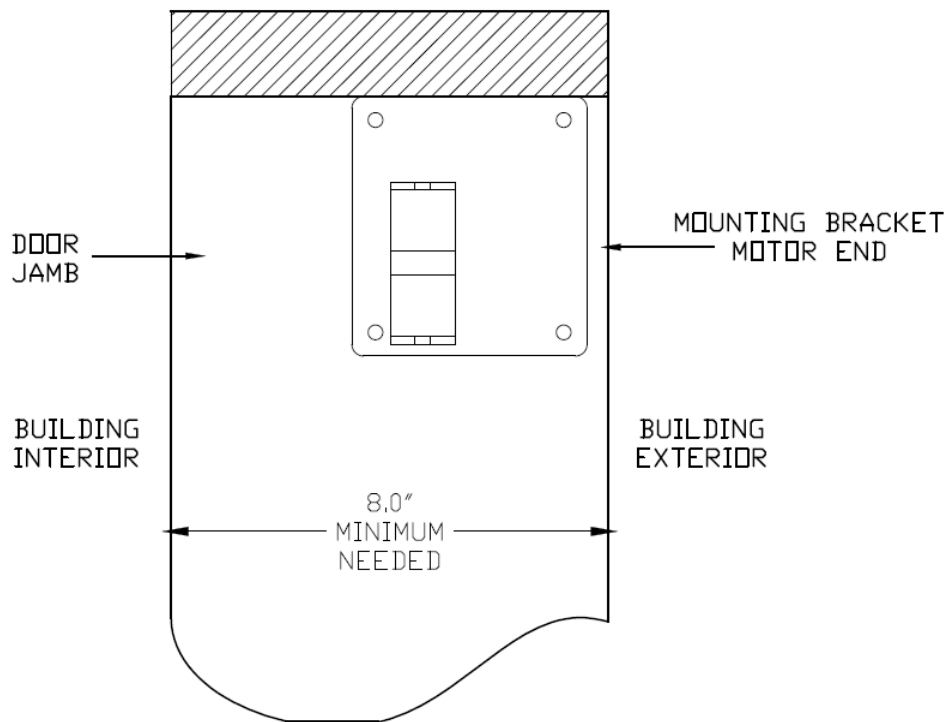

FIGURE 1
STEP 2. Locate the motor mounting bracket. From the inside looking out, the motor mounting bracket will be mounted based on the information documented on the front page. Mount the motor bracket at the top of the jamb, so that it is within a 1/2 inch of the exterior of the building (**See Fig. 1**). **NOTE: JAMB MUST BE AT LEAST 8" TO ENSURE THAT THE ROLL WON'T STICK OUT PAST THE FRONT OF THE JAMB.** Self-tapping #10 x 3/4" screws are provided for fastening to a steel jamb. Pre-drill all fastening points with a #22 bit. Use 5/32 shim washers if needed to ensure a level condition. If fastening to a wooden jamb, round or oval head #10 x 3/4" wood screws are recommended (Not included with this package).